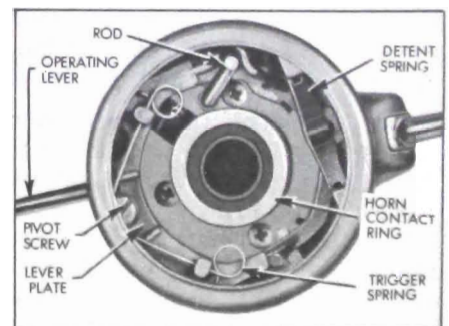
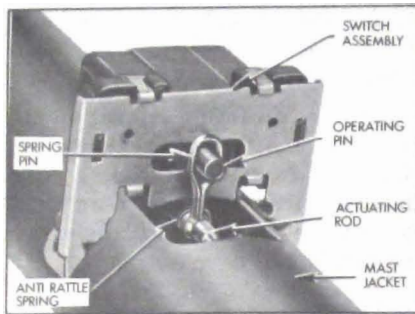

Figure 10-64—Top View of Direction Signal Switch Actuator
Figure 10-65—Direction Signal Switch Installation—Bottom View
The upper end of the actuating rod is crank shaped and fits in a slot in the lever plate. See Figure 10-64. The lower end of rod is attached to the signal switch by a spring pin which is installed around switch operating pin and through hole in rod. An anti rattle spring located on rod between spring pin and the positioning tab which is part of mast jacket, hold the rod in place. See Figure 10-65.
Also check to see if the spring pin that retains actuating rod to switch pin is properly installed or broken. See Figure 10-65.
2. Loosen two switch mounting screws and move switch sideways on mast jacket until operating pin projecting from switch is centered. See Figure 10-65. Tighten switch mounting screws.
4. Remove direction switch. Remove spring pin and spring from lower end of actuator rod and pull rod out of actuator. See Figures 10-64 and 10-65.